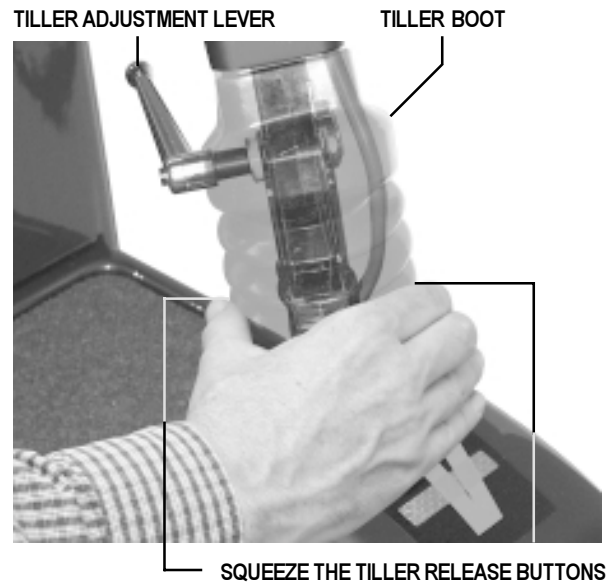

Figure 8. Tiller Angle Adjustment
1. Turn the tiller adjustment lever counterclockwise until it is loose. If the tiller adjustment lever comes in contact with the tiller basket, pull it outward, turn it clockwise, and release it. Continue to loosen until you are able to move the tiller. See figure 8.